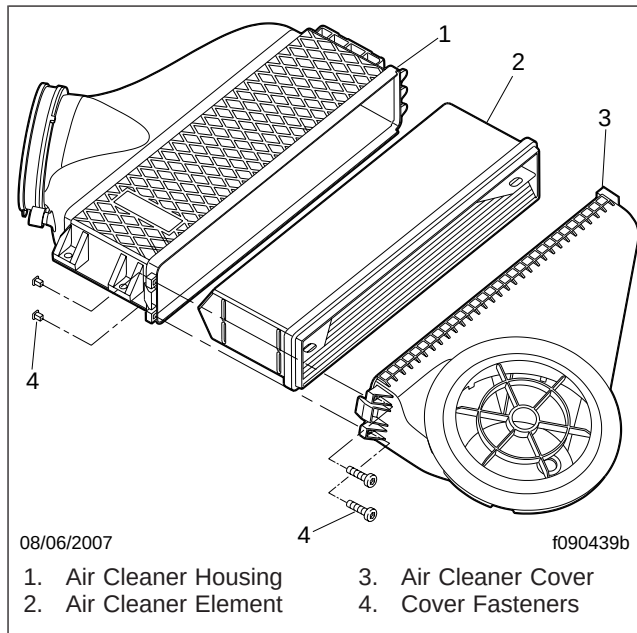

Fig. 1, Air Cleaner Element Replacement
4. Remove the two sets of fasteners from the air cleaner cover. See Fig. 1.